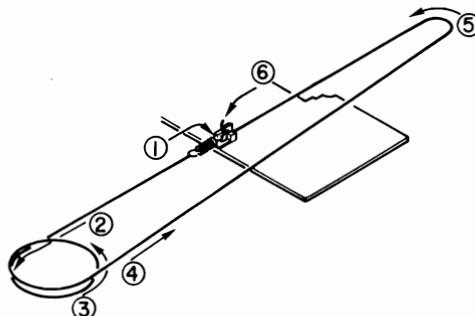
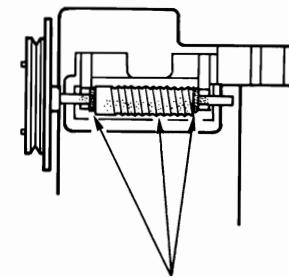

Figure 17
Figure 19
**(B) Assembly of the Bracket Assembly (17)**
1. After inserting the tone arm into the cut out section of the cabinet, pass the 2 rails (23) through the Bracket Assembly and fasten the rails with the screws (40) (in 3 places).
2. Insert the shaft (25) into the cabinet and attach the worm wheel gear (26).
3. Affix the string (28) in the order shown in Figures 17 and 18.
4. Attach the Worm Gear Assembly (30) to the Bearing Assembly (29). Align so that the gear portion of the worm wheel gear (26) engages with the worm gear and fasten to the cabinet with the 2 screws (42).
**NOTE :** When attaching the Worm Gear Assembly to the Bearing Assembly, be sure the washers are positioned between the worm gear and the shaft holder portion on the Bearing Assembly as shown in Figure 19. Apply a small amount of silicon grease to the worm gear.